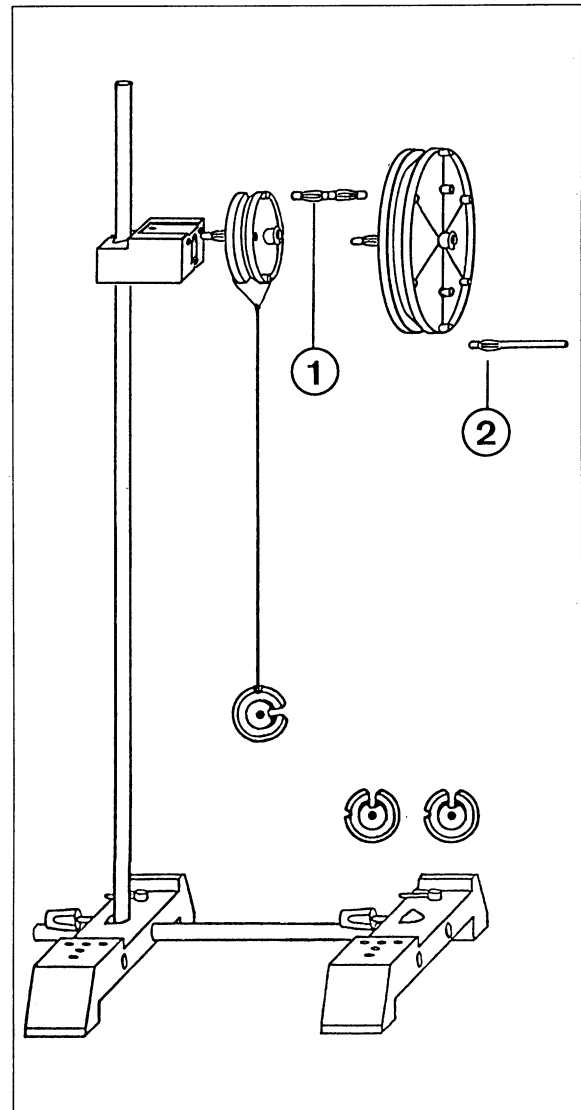

Fig. 1 Instructions for setting up a shaft-mounted wheel
1. Set up the apparatus as shown in fig. 1.
2. Attach a weight to the small pulley by a fishing line, as shown in fig. 1.
3. Plug the coupler plug (1) into one of the outer holes in the small pulley and connect the large pulley to the small pulley using the two coupler plugs protruding from both pulleys.